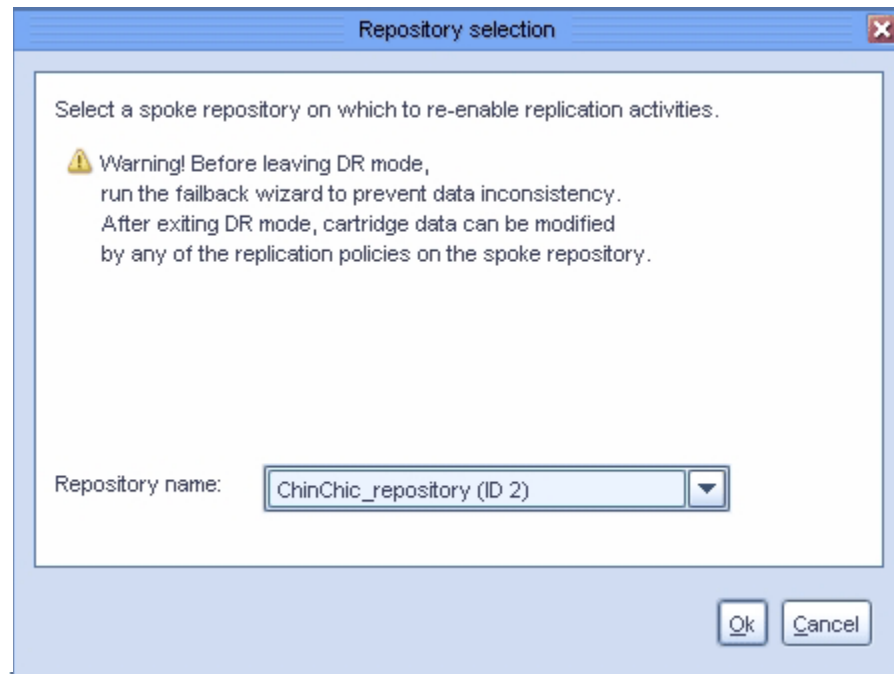

Figure 11-18 Select the spoke repository on which to leave the DR mode
2. From the drop-down menu, select the spoke repository from which you want to exit DR mode (Figure 11-18).